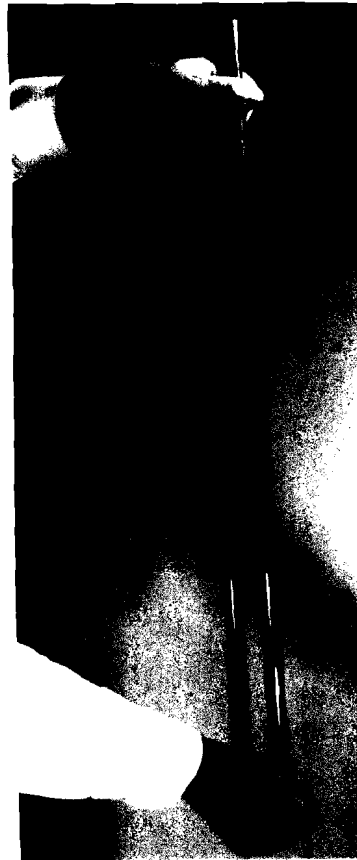

Figure 86
g) Twist lightly in a direction opposite to the warp (Figure 86).